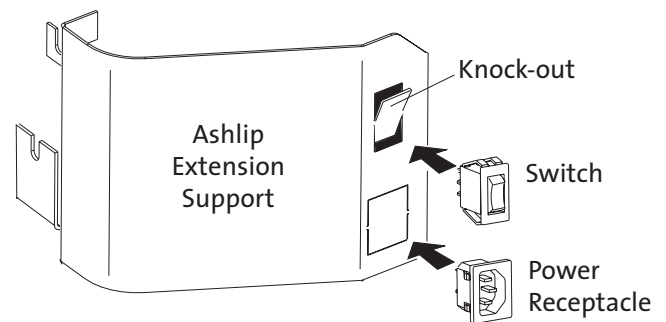

Figure 15.
6. Insert the Control Switch and Power Receptacle: Use a flat head screwdriver and pliers to pry the knockouts from the appropriate ash lip support. Work from the inside, to avoid marring the outside surface. Insert the Power Switch in the upper hole, and the Power Cord Receptacle into the lower hole. See fig. 15.